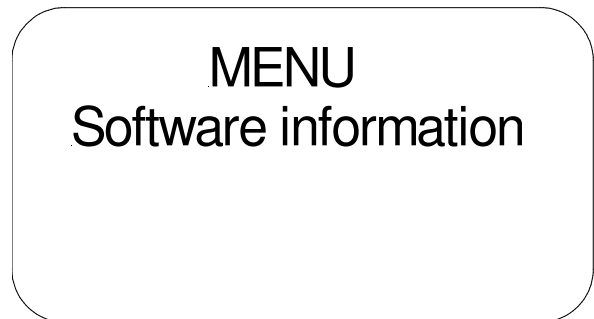

Fig. 36
- Turn the large turning knob (fig. 21.2) in a counter clockwise direction to the submenu "Software Information" (fig. 36).